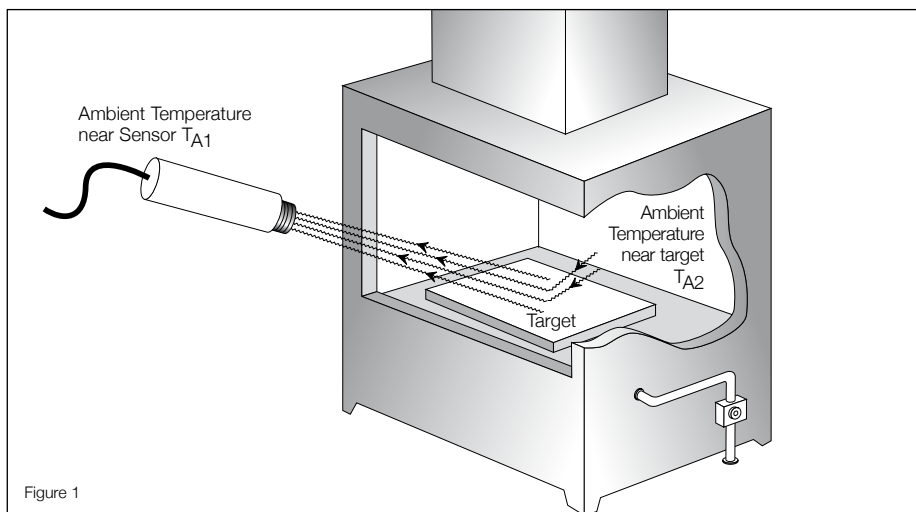

Figure 1
Measurement situations where the ambient temperature of the infrared thermometer differed from the ambient temperature near a low-emissivity target have been particularly difficult, in terms of obtaining absolute measurement accuracy (see Figure 1).
- 2) Background ambient temperature near target significantly different than temperature where sensor is held (see Figure 1)